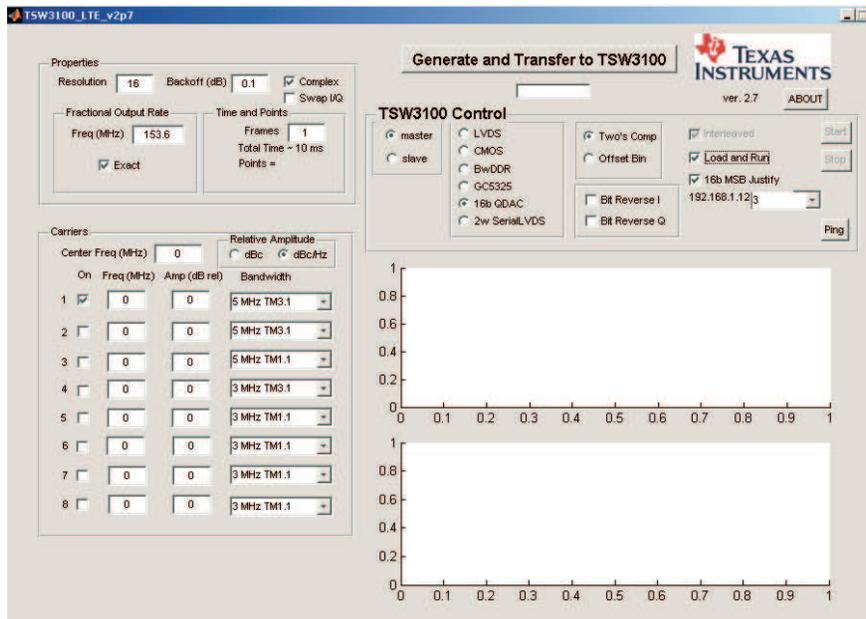

Figure 25. TSW3100 LTE GUI
3. The TSW3100 appears as shown in Figure 25.